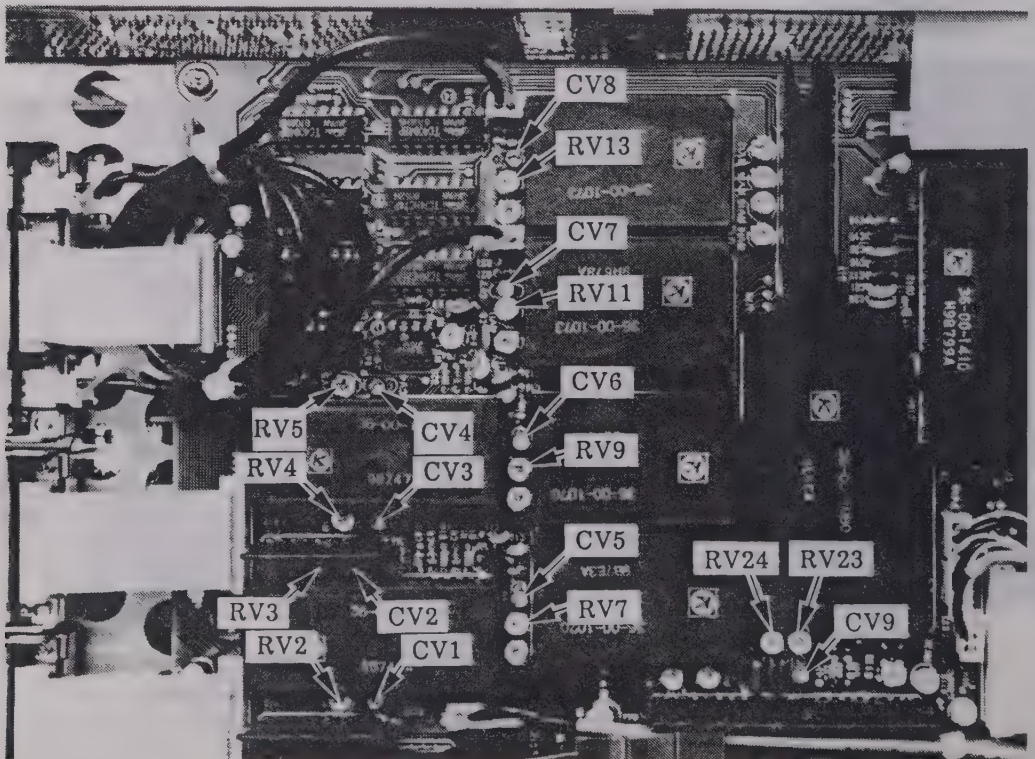

Fig. 4-22 Adjustment position of HIGH FREQUENCY COMPENSATION on board A4
- (1) Perform initial setting of the instrument in accordance with Table 4-3.
- (2) Set "VERT MODE" to CH2 ONLY, and the input coupling of CH2 to "DC".
- (3) Set "A TIME/DIV" to 0.2 us/DIV.
- (4) Connect the fast rise square wave output of a vertical axis calibrator which has been set to about 1 MHz, to the CH2 input, and adjust the signal output to 5 DIV.
- (5) Confirm that the flat characteristics of the square waves, including overshoot and ringing, are within  $\pm 3\%$ . If they are not, adjust HIGH FREQUENCY COMPENSATION (RV23, RV24, CV9, RV9, CV6, RV4 and CV3) on board A4, and also HIGH FREQUENCY COMPENSATION (RV1, RV2, RV5, CV1, CV2, and CV3) on board A5, shown in Figs.4-22 and 4-23.
- (6) Connect the signal output to CH1, and set "VERT MODE" to CH1 ONLY.
- (7) Confirm that the flat characteristics of the square waves, including overshoot and ringing, are within  $\pm 3\%$ . If they are not, adjust HIGH FREQUENCY COMPENSATION (RV7, CV5, RV2, AND CV1) on board A4 showing in Fig.4-22.
- (8) SET "VOLTS/DIV" of CH1 to 5 mV/DIV.
- (9) Confirm that the flat characteristics of the square waves, including overshoot and ringing, are within  $\pm 3\%$ . If they are not, adjust HIGH FREQUENCY COMPENSATION (RV3, CV2) on board A4 shown in Fig.4-22.
- (10) Connect the signal output to CH2, and set "VERT MODE" to CH2 ONLY.
- (11) Set "VOLTS/DIV" of CH2 to 5 mV/DIV.
- (12) Confirm that the flat characteristics of the square waves, including overshoot and ringing, are within  $\pm 3\%$ . If they are not, adjust HIGH FREQUENCY COMPENSATION (RV5, CV4) on board A4 shown in Fig.4-22.
- (3) Set "A TIME/DIV" to 0.2us/DIV.
- (4) Connect the fast rise square wave output of a vertical axis calibrator which has been set to about 1 MHz, to the CH3 input, and adjust the signal output so that the waveform on the screen is 5 DIV.
- (5) Confirm that the flat characteristics of the square waves, including overshoot and ringing, are within  $\pm 5\%$ . If they are not, adjust HIGH FREQUENCY COMPENSATION (RV11, CV7) of board A4 shown if Fig.4-22.
- (6) Connect the signal output to CH4, and set "VERT MODE" to CH4 ONLY.
- (7) Set " $\div 5$ " of CH4 to OFF.
- (8) Confirm that the flat characteristics of the square waves, including overshoot and ringing, are within  $\pm 5\%$ . If they are not, adjust HIGH FREQUENCY COMPENSATION (RV13, CV8) on board A4 shown in Fig.4-22.